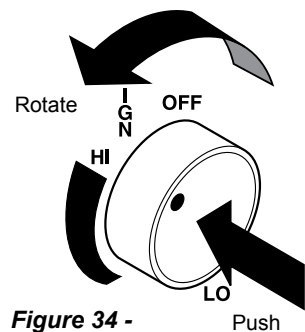

Figure 34 -
- Push in control knob and turn counterclockwise  to the HIGH setting. At this location the control knob will pop out when positioned correctly. The knob can now be positioned at any position between HIGH and LOW. Figures 34 and 35